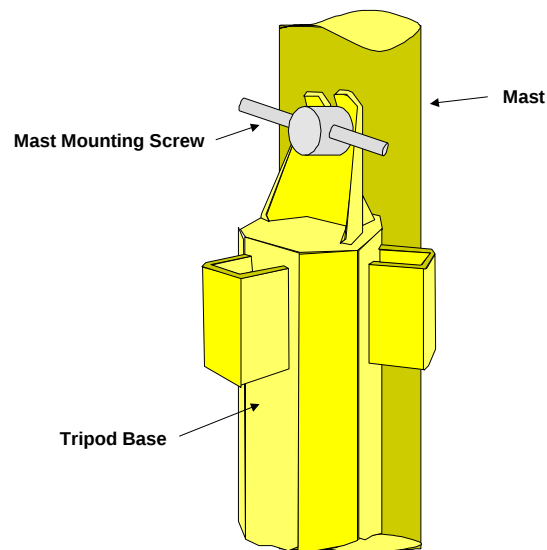

Figure 8. Securing The Mast To The Base.
5. Place the pin at the base of the mast into the bush on the base. Secure the mast to the base using the mast mounting screw as shown in Figure 8.